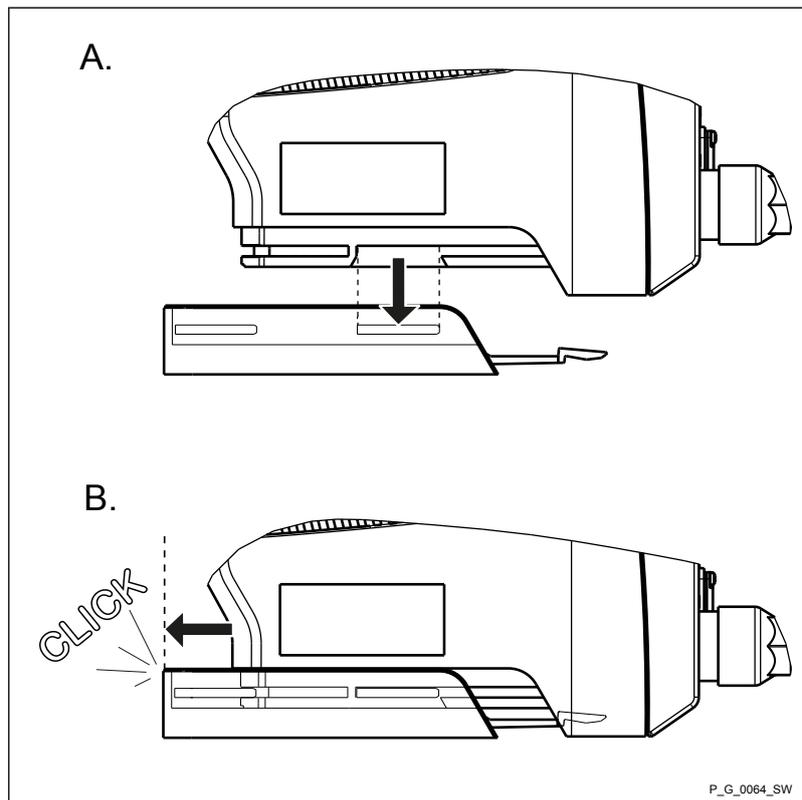

Fig. 9
**3.** → Lock the foot of the metering pump into the mounting plate – see Fig. 9.